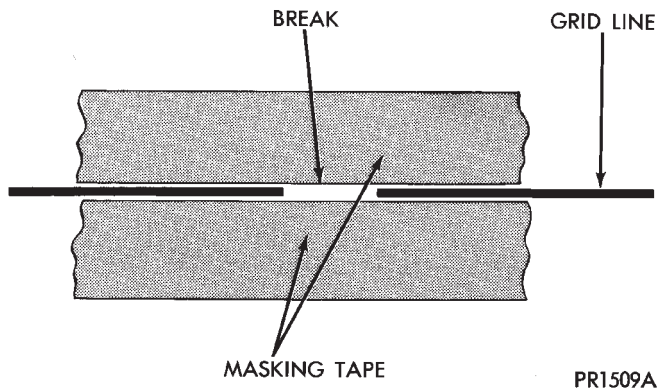

Fig. 1 Grid Line Repair (Typical)
- (1) Mark the location of the broken or open grid on the exterior surface of the glass using a suitable marking pencil.
- (2) Lightly rub the area to be repaired (inside the rear window) using fine steel wool. Clean the area with alcohol.
- (3) Attach two strips of masking tape to the inside surface of the rear window above and below the break in the grid (Fig. 1).